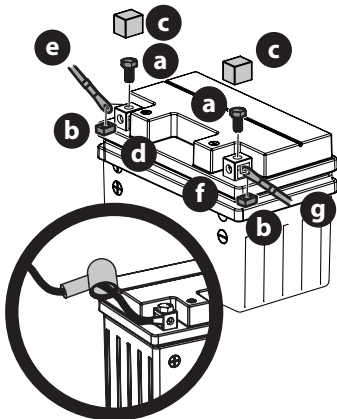

Figure 17
1. Remove the factory installed hex screws (a) and square nuts (b) located either on the end of the wiring harness or in the bag with this manual. Retain the hardware for later instructions (Figure 17).
2. Remove the plastic cover (c), if present, from the positive battery terminal (d) and attach the red cable (e) to the positive battery terminal (d) with one of the hex screws (a) and square nuts (b), from Step 1. Use a Philips screw driver (Figure 17).
3. Position the red rubber boot over the positive battery terminal (d) to help protect it from corrosion (Figure 17 inset).
4. Remove the plastic cover (c), if present, from the negative battery terminal (f) and attach the black cable (g) to the negative battery terminal (f) with the remaining hex screw (a) and square nut (b) (Figure 17).